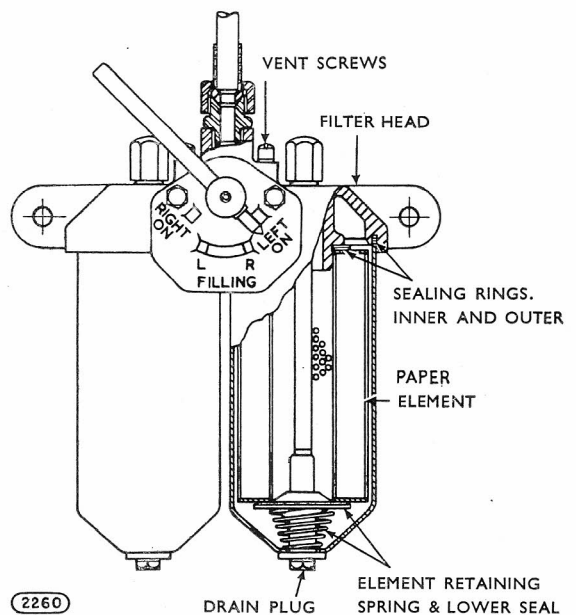

Fig. 11. Duplex Type Fuel Filter
32. DUPLEX TYPE FUEL FILTER. This filter unit, designed primarily for marine installations, contains two paper filtering elements Part No. GFF3/10, either of which can be brought into operation by rotation of the change-over valve in the filter head. The change-over valve permits the cleaning and replacement of one element whilst the other element is still in operation and the vessel under way. See Fig. 11.